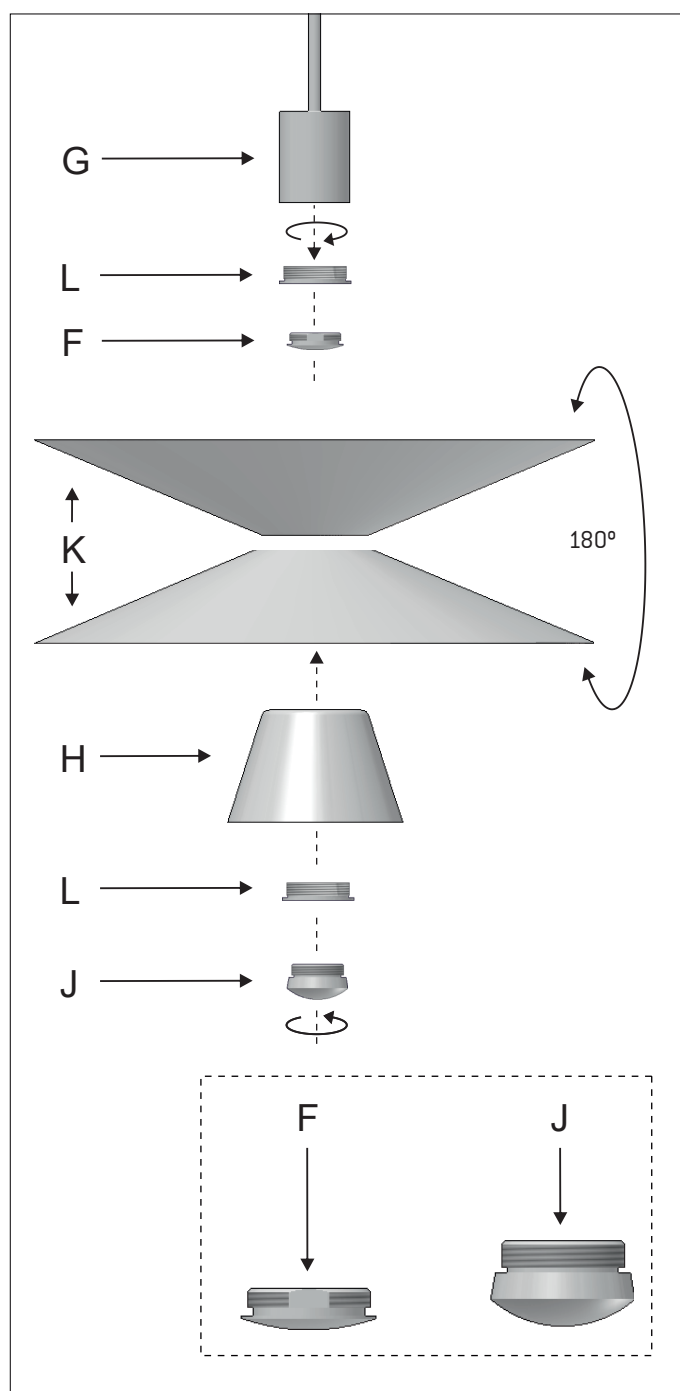

Figure 6
6 - Unscrew the head cap (L) from the lamp's body (G), and the optic lens (F) from the head cap (L). This optic lens (F) is only used with the version without the glass shade (H). For the versions with the glass shade, the optic lens (J) must be used. The metal shade (K) can be installed facing up or down, depending on the design. Once the final composition has been decided, screw the optic lens (F or J) to the head cap (L) and this cap to the lamp's body (G). This will hold all the parts in place. Figure 6.